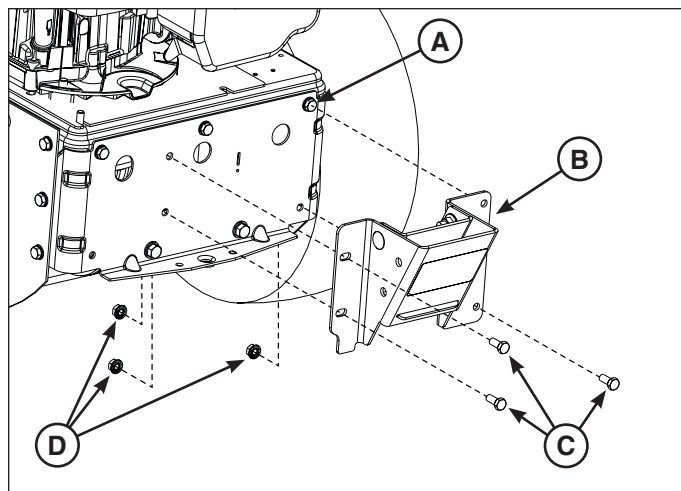

Figure 1
1. Remove the top right hex bolt (A, Figure 1) from the rear panel of the rider.
2. Attach the catcher bracket assembly (B) to the rear panel of the rider. Use the bolt removed in Step 1 to secure the top right hole. Secure the other three holes with three 5/16 x 3/4 hex bolts (C) and 5/16" flange nuts (D). Tighten securely.